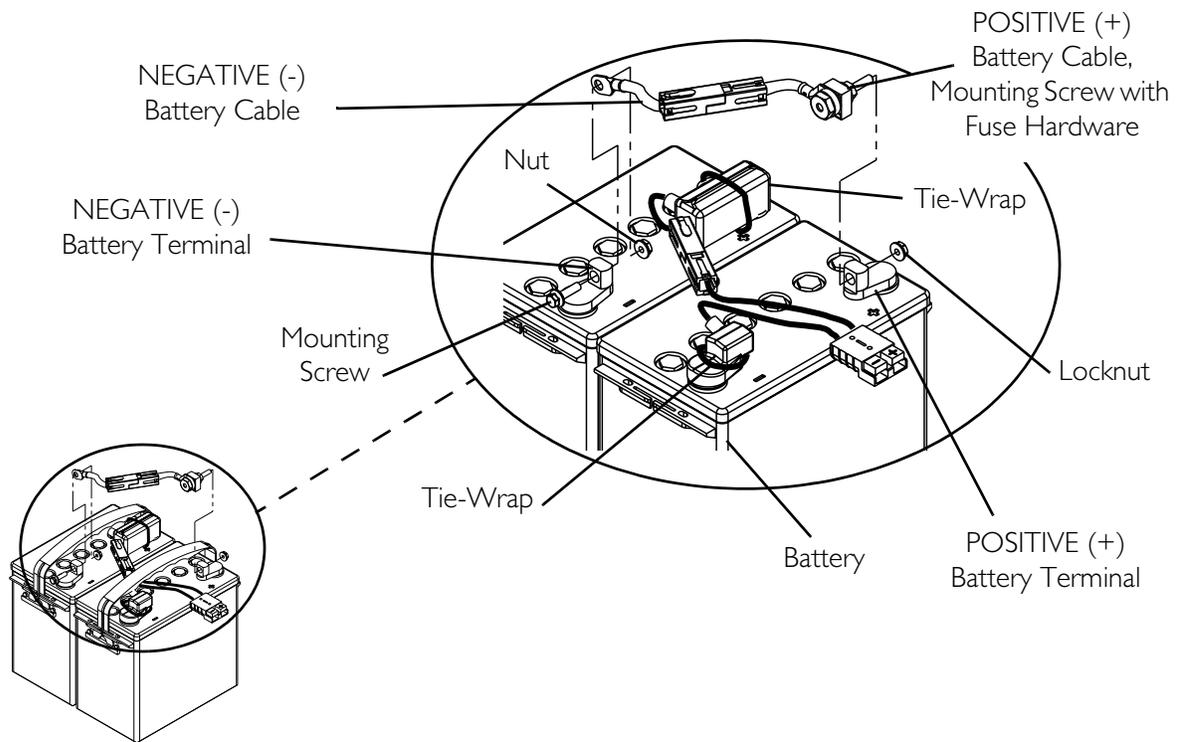

FIGURE 11.3 Connecting/Disconnecting the Battery Wiring Harness
When connecting the battery cables to the battery(ies), the battery cable(s) **MUST** be connected to the battery terminal(s)/post(s) as shown in FIGURE 11.3 otherwise damage to the battery may result.
NOTE: For this procedure, refer to FIGURE 11.3 on page 75.
2. Using the mounting screws and nuts, secure the battery cables to the battery terminals as shown in FIGURE 11.3 in the following order:
6. Using new tie-wraps, secure the terminal covers to the battery terminals as shown in FIGURE 11.3.
3. Remove the mounting screws and nuts that secure the battery cables to the battery terminals as shown in FIGURE 11.3 in the following order: